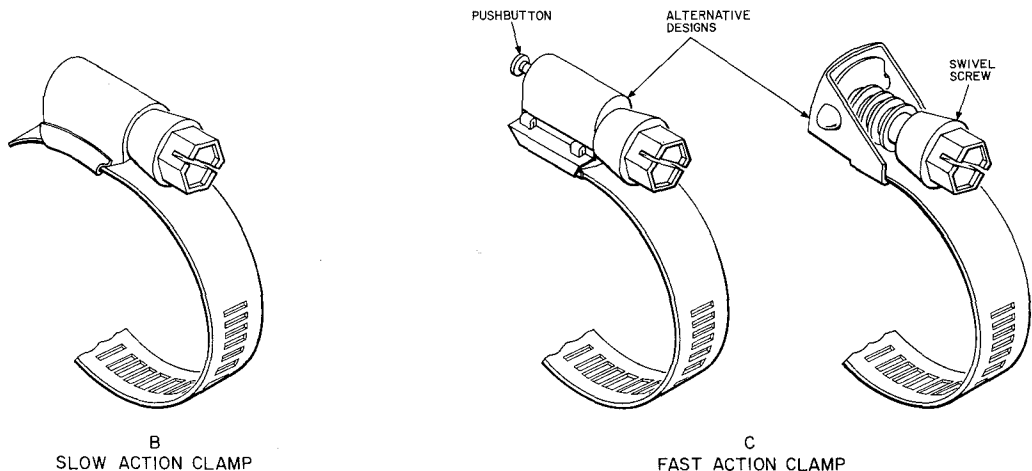

Fig. 2—B and C Sealing Clamps
2.06 The B Sealing Clamp is a slow-action type clamp. The screw must be turned to advance the perforated band through the housing (Fig. 2). The B Clamp covers a range of diameters from 9/16 inch to 1-1/16 inches.
2.07 The C Sealing Clamp is a fast-action type clamp. The free end of the perforated band may be pushed through the worm screw housing **before** the worm screw is engaged for final tightening of the clamp. A pushbutton or swivel screw mechanism provides a quick locking or release of the band (Fig. 2). The C Sealing Clamp is available in three sizes covering a range of diameters 13/16 inch to 4 inches. Refer to Table A for the sizes of clamps available.